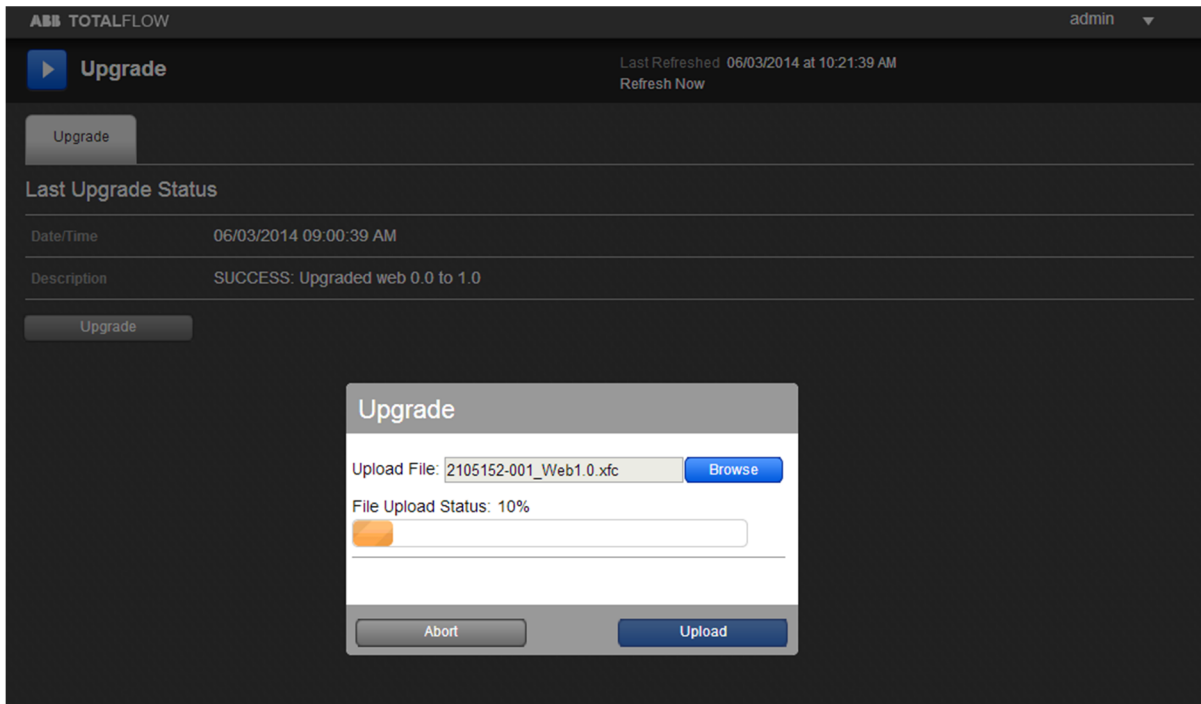

Figure 10: Upgrade Screen
4. Select the **Upload** button (Figure 10).